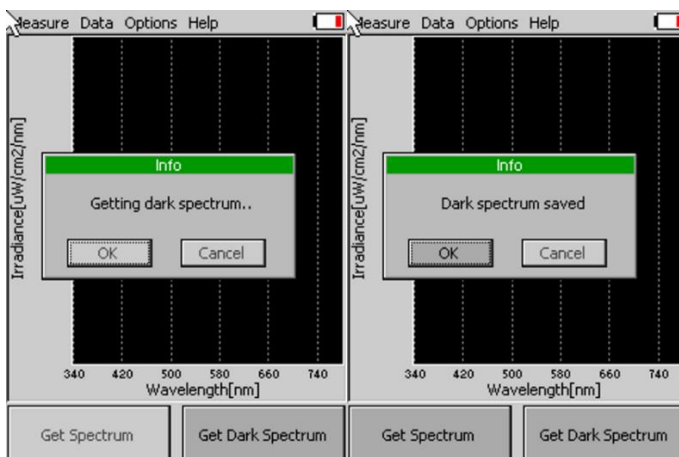

Fig. 4 Dark spectrum calibration - part 2.
- Press OK and wait until the Dark spectrum calibration step is completed Fig. 4). Please note that the sensor head must be covered throughout the entire process of calibration.